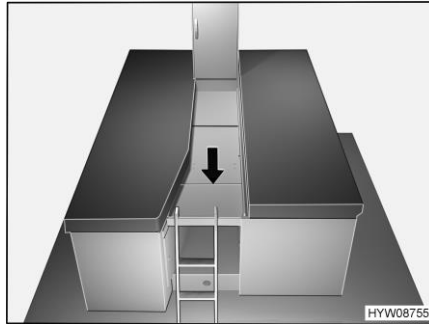

Fig. 82 Preparing the bed widening
- Fold up the bed widening and place it between the single beds, as shown in Fig. 82.